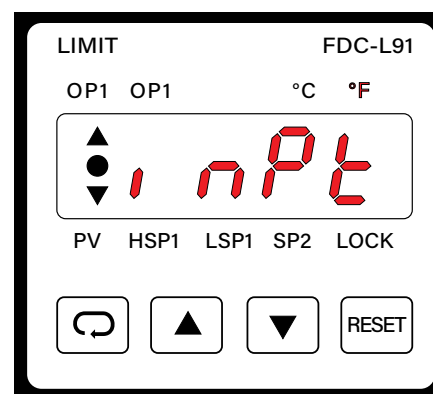

Figure 15
1. After power-up, press and hold the SCROLL key for 4 seconds. You will be in the set-up mode. The controller will read "INTP". (See **Figure 15**).